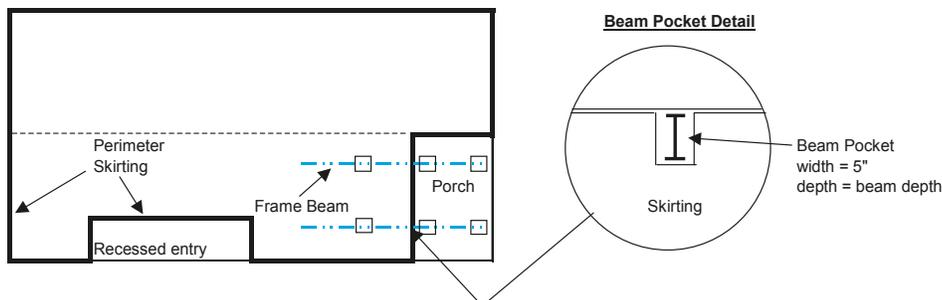

Figure 96. Perimeter skirting at recessed entries, porches, and decks
1. **Configure skirting.** Run the skirting along the perimeter of the home's heated, conditioned space (**Figure 96**). Do not enclose with skirting areas under recessed entries, porches, or decks (whether constructed as part of the home or added on site) unless skirting is of the fully vented type and installed so as to allow water to freely flow out from under the home.